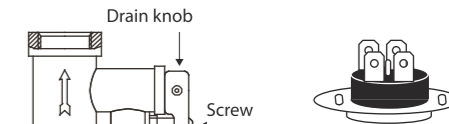

Fig. 14
7. To drain water from the internal tank properly, you need to use the drain hole (only for FS2/FS4/FS6 series) (it is necessary to unscrew a plug, covering the drain hole), water can also be drained through a check relief valve (unscrew the check relief valve drain knob screw and set the drain knob to the upper position, at that hot water discharge cock must be open, and cold water supply cock must be closed) (see Fig. 14). Never drain water if its temperature is over 50°C since it may result in burns.